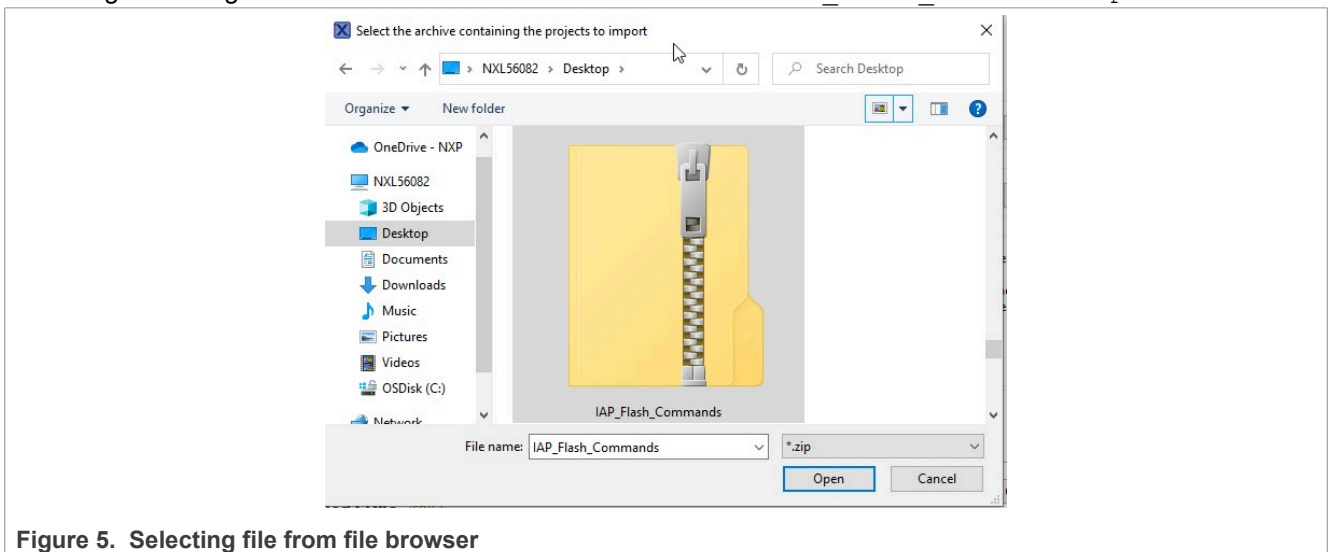

Figure 5. Selecting file from file browser
5. Click **Open**, see Figure 5.